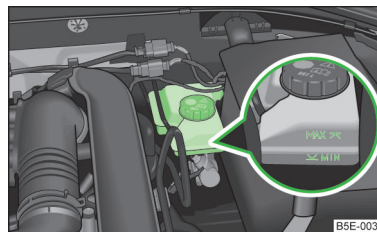

Fig. 179
- Check the level of brake fluid in the reservoir » Fig. 179. The level must be between the "MIN" and "MAX" markings.